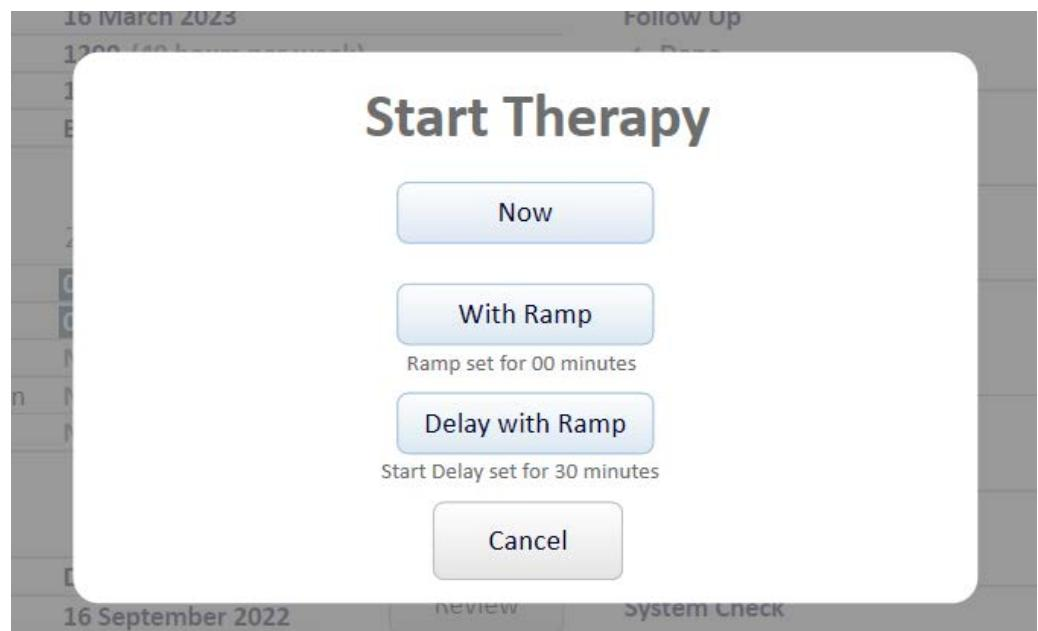

Figure 5-2. Start Therapy Screen
- **Turn On/Turn Off Therapy Button** — Select button to turn stimulation on or off. Turning stimulation on accesses the Start Therapy Screen (Figure 5-2), where you may choose to start therapy immediately or postpone until the start delay expires.